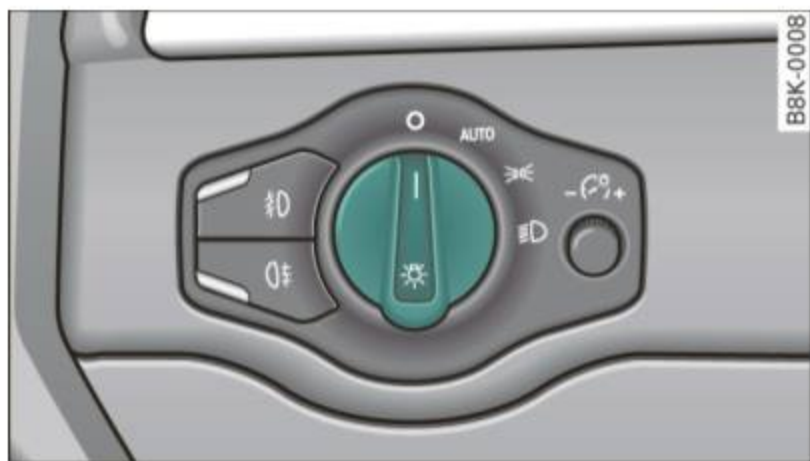

Fig. 50 Instrument panel: Headlight control switch
- Turn the light switch to **AUTO** ⇒ fig. 50.
The daytime running lights are activated when the light switch ⇒ *page 58*, fig. 50 is in the **O** position or the **AUTO** position (only in daylight conditions). The daytime running lights function can be turned on and off in the radio or MMI* menu **Exterior lighting** ⇒ *page 60*.
The daytime running lights are activated when the light switch ⇒ *page 58*, fig. 50 is in the **O** position,  position or the **AUTO** position (only in daylight conditions). The daytime running lights function cannot be turned off.